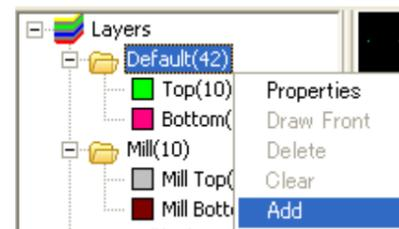

Fig. 40 Adding a layer
To generate outline (routing) data, use board outline prepared in Section I 1-2(1) above. From Layers pane, select “Default”, then right click and show Properties popup menu. Choose “Add” as shown in Fig. 40.